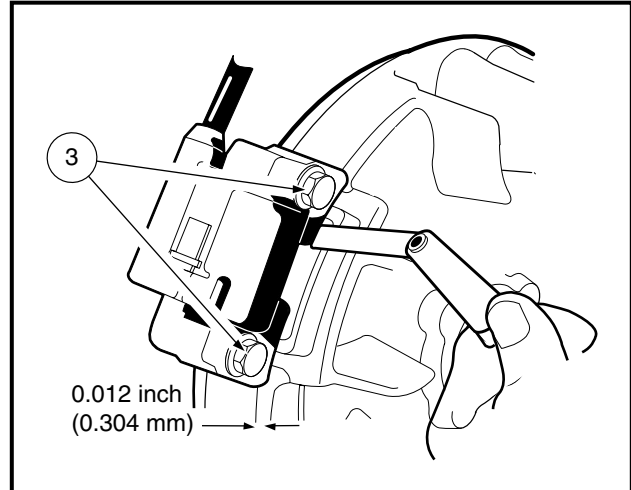

Figure 13-8 Adjust Ignition Coil Air Gap
2. Tighten the two bolts (3) and use a bronze feeler gauge to adjust the ignition coil air gap to 0.012 inch (0.304 mm) (**Figure 13-8, Page 13-7**).